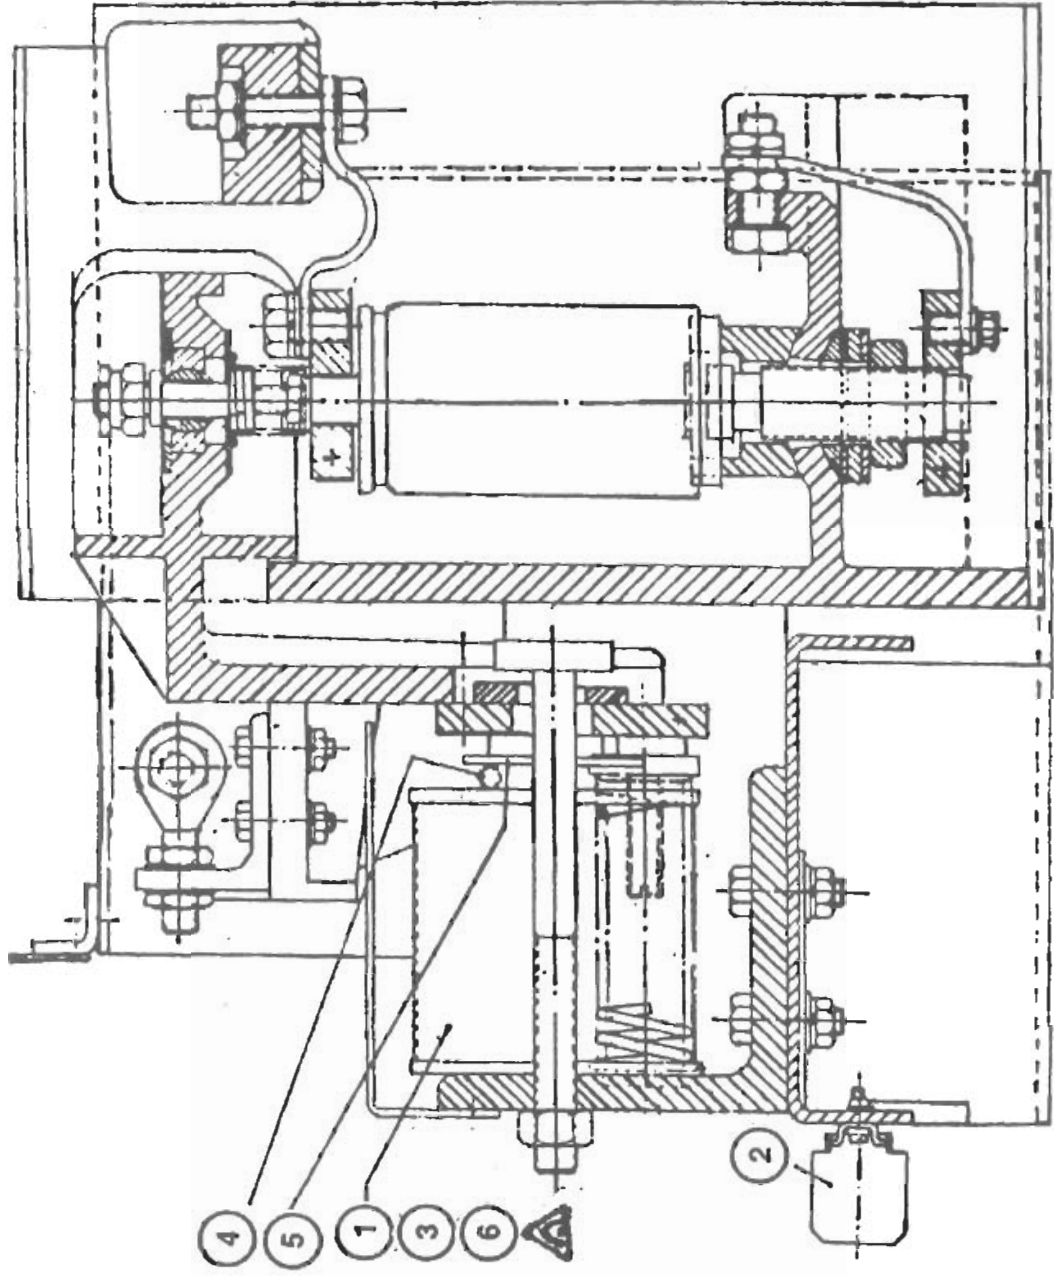

FIG.: 1
The vacuum contactor is of a compact unit construction comprising 3 numbers of vacuum switches and an operating mechanism containing operating coils, springs, economy resistors and auxiliary contacts (Fig. 1).
7.1 Replacement of closing coils (Ref. Fig.1)